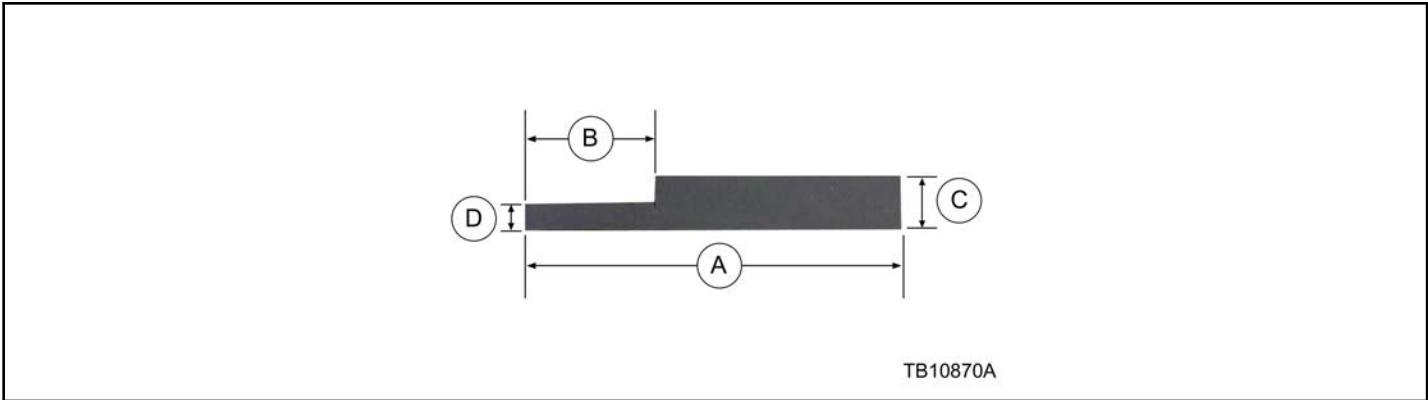

Figure 6 - Article 16-0058
8. Cut one piece of PVC soft foam tape 164-R4901 from Rotunda Squeak and Rattle kit 164-R4900 as shown. (Figure 6)